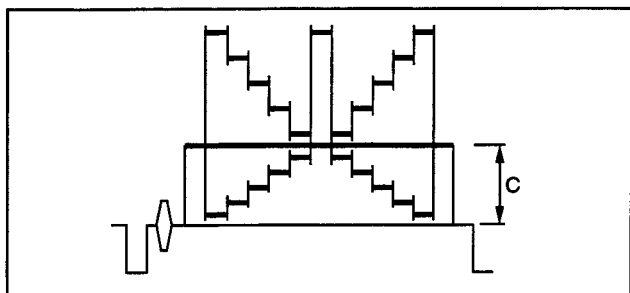

Fig.2
Lower adjustment values make the level (C) lower as shown in Fig.2.